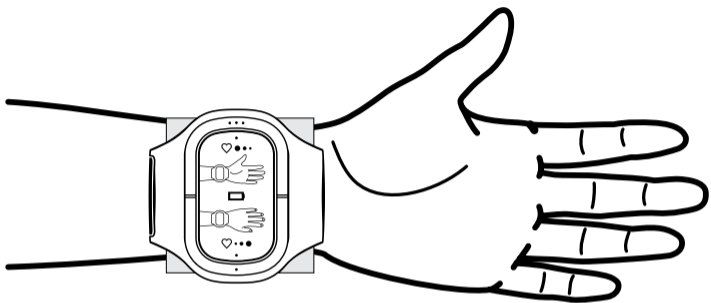

Fig.4. Electrostimulator position in the inner wrist zone for patients with high blood pressure
12.7.1. Inner wrist zone — exposure area with for patients with high blood pressure (Fig.4).